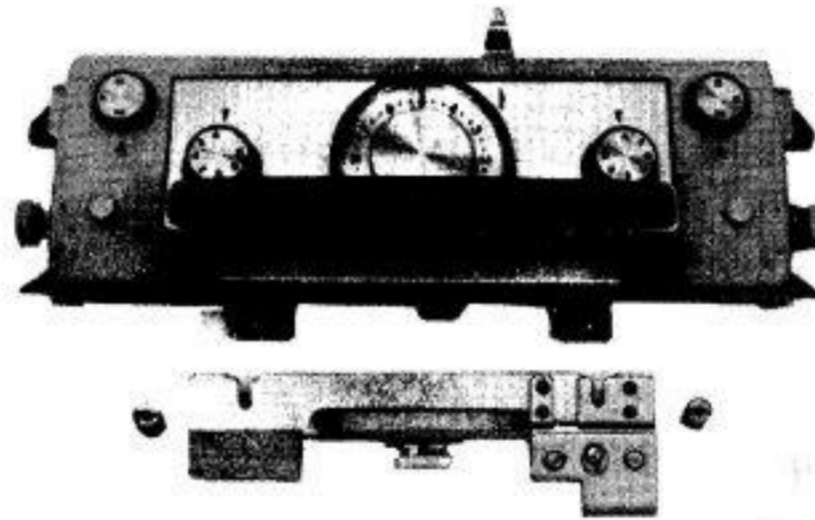
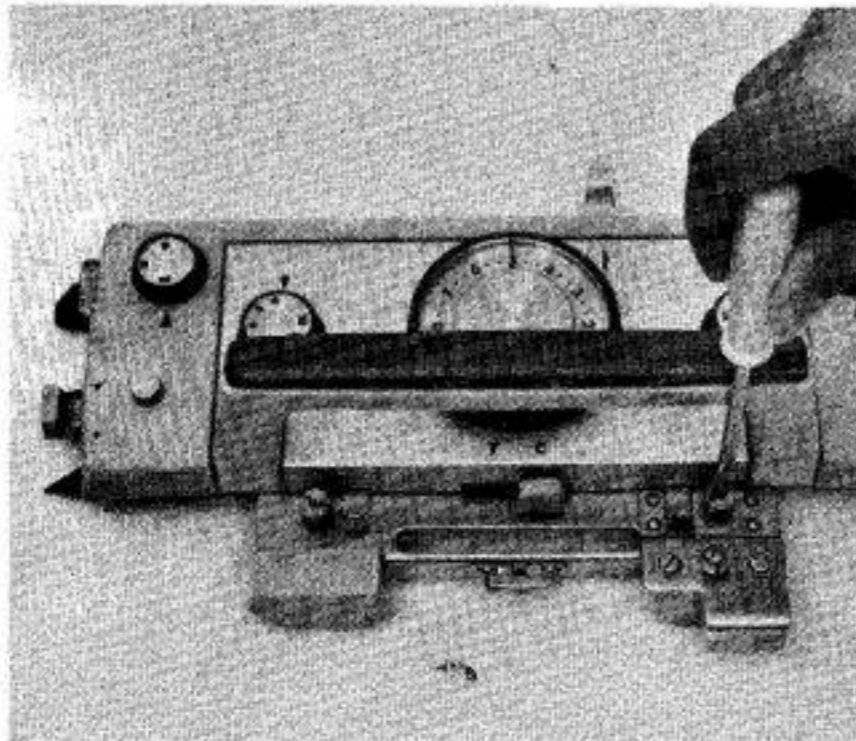

Fig. 17
Fig. 18
8. Replace the machine feeder arm with the special ribber feeder arm as shown in Fig. 17 and secure in position by tightening the knurled nuts. (Fig. 18)